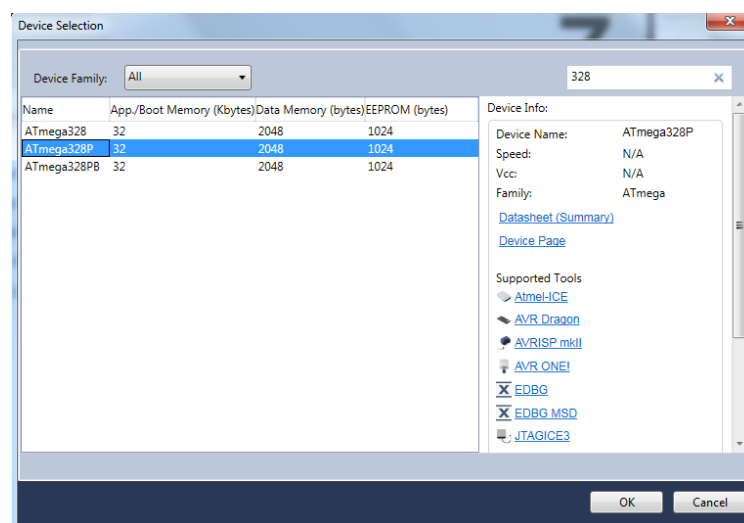

Figure 7 Device selection dialogue.
- In the *Device Selection* window that appears in Figure 7 below, type “328” in the search field, and select the ATmega328P.